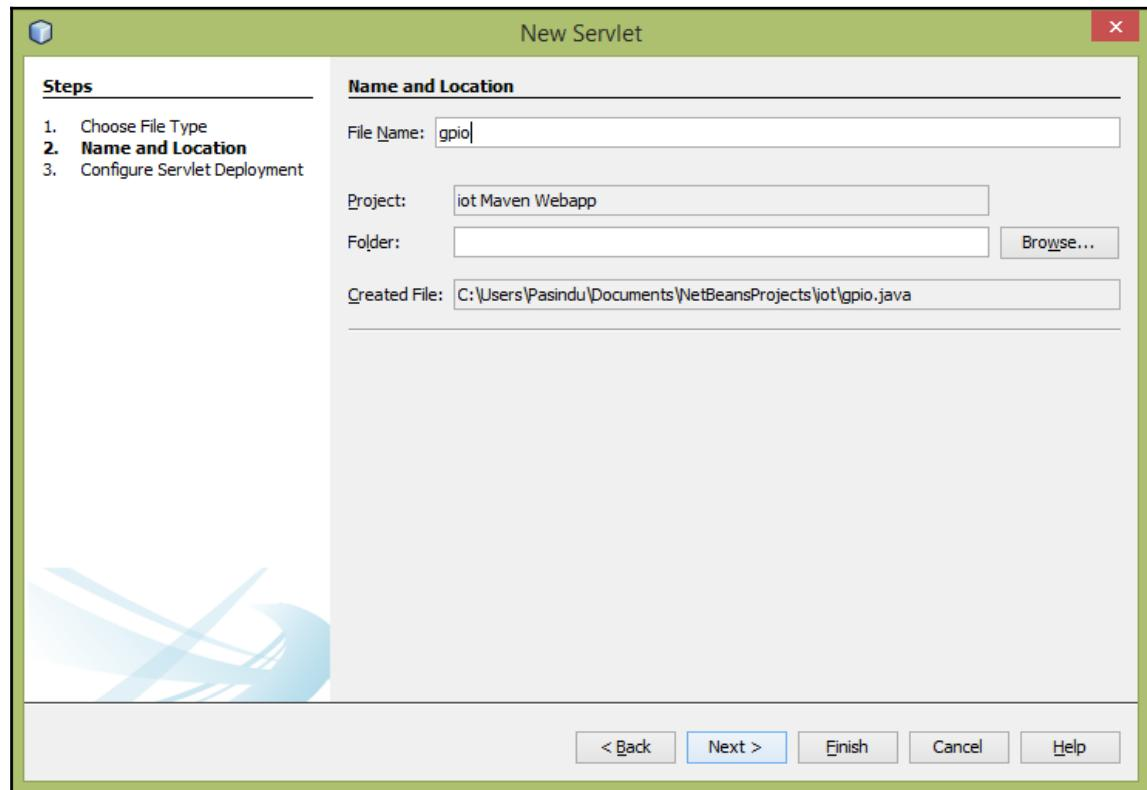

Figure 6-11: New servlet - Name and Location
1. Right-click on the **iot Maven Webapp** in the **Projects explorer** and from the context menu click **New | Servlet**. In the **New Servlet** dialog box (Figure 6-11), type `gpio` as the **File Name**.